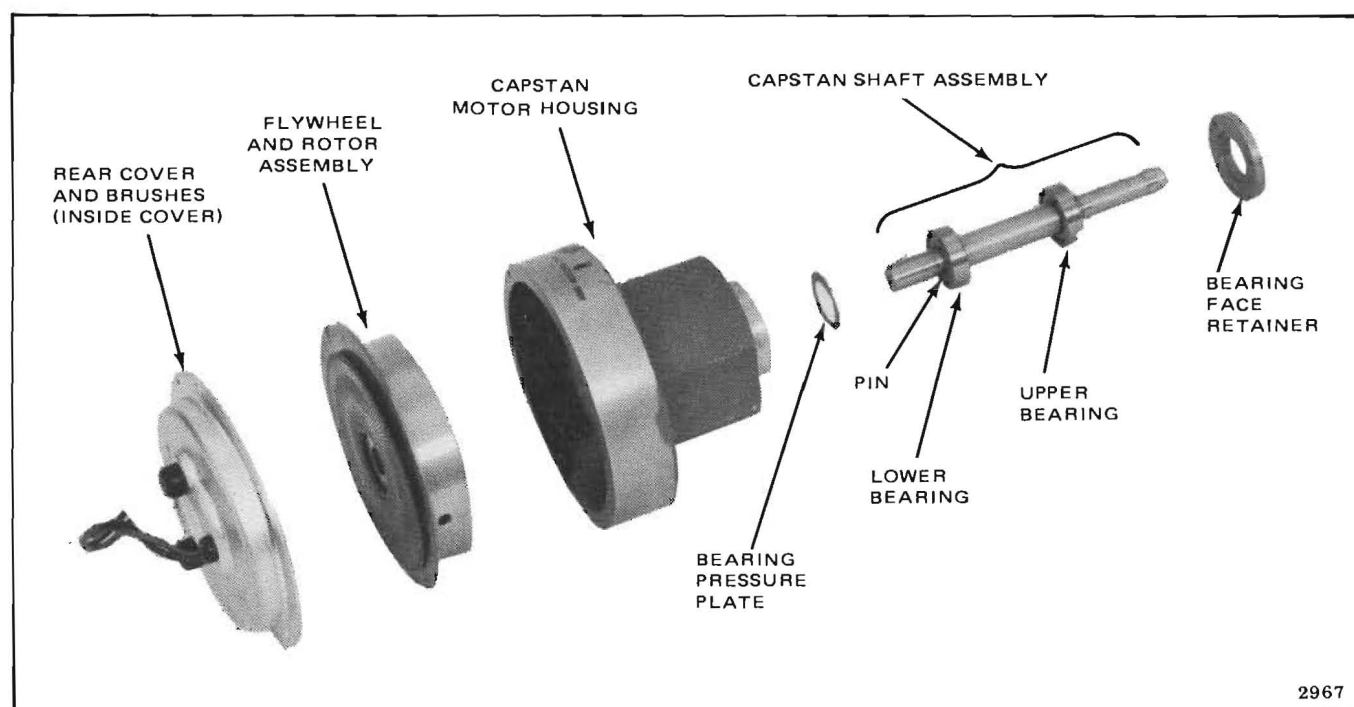

Figure 5-47. Exploded View of Capstan Motor
parts that can be replaced are the motor brushes, flywheel and rotor assembly, capstan shaft assembly, and capstan motor bearings (Figure 5-47). It is not necessary to remove the complete motor to replace any of these component parts. The brushes are located within the rear cover. Note that the flywheel and rotor are not separable parts and therefore must be replaced as a unit.
5-101. Flywheel and Rotor. Use the following procedure to replace the flywheel and rotor assembly (Figure 5-47).
7. Check that the bearing pressure plate shown in Figure 5-47 (looks like a large washer) is either resting on the springs or is held by grease film to the lower bearing on the capstan shaft assembly.
2. Prior to removing the lower bearing (Figure 5-47), remove the 0.062 flywheel drive pin from the capstan shaft.